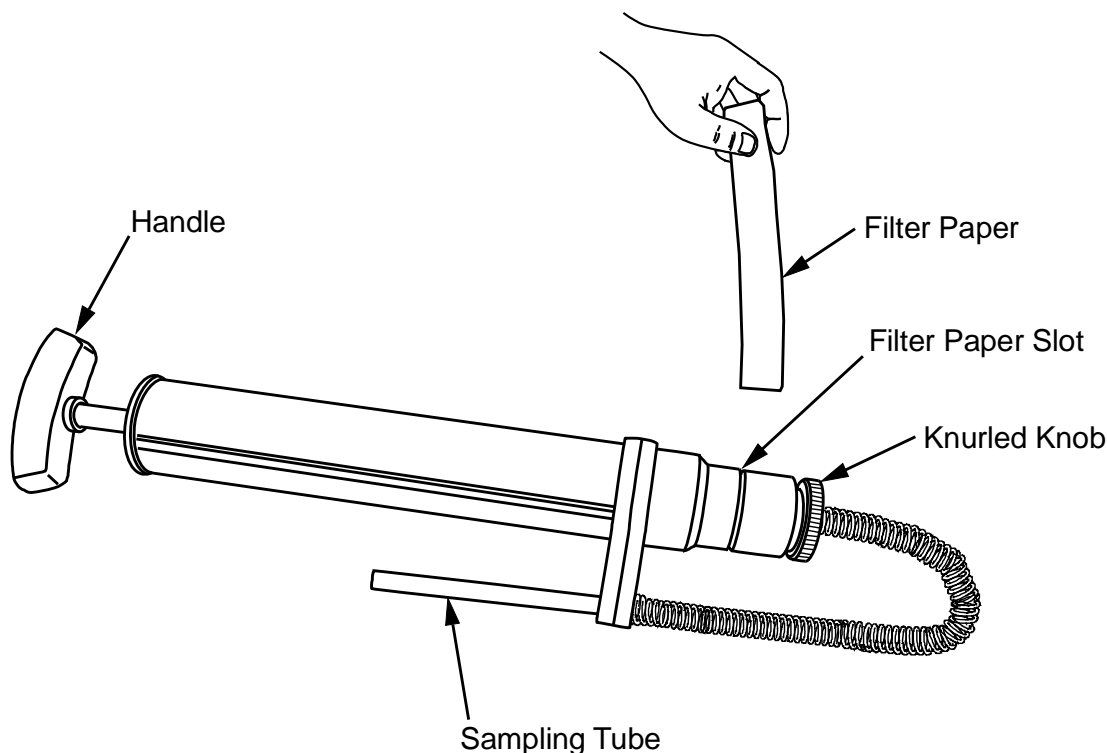

Figure 6-1 - Smoke Tester
2. Loosen knurled knob clamp on tester as shown in Figure 6-1.